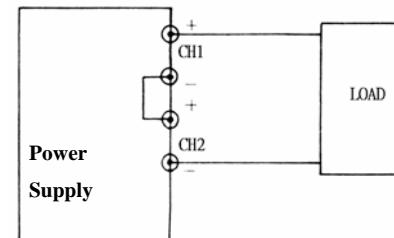

Fig. 5-3 Single Supply
- E. If “single supply” operation is required, this allows the power supply to be used at twice the voltage and rated current simply by using the negative (black) terminal of the CH2 supply and the positive (red) terminal of the CH1 supply, the configuration as shown in Fig. 5-3.